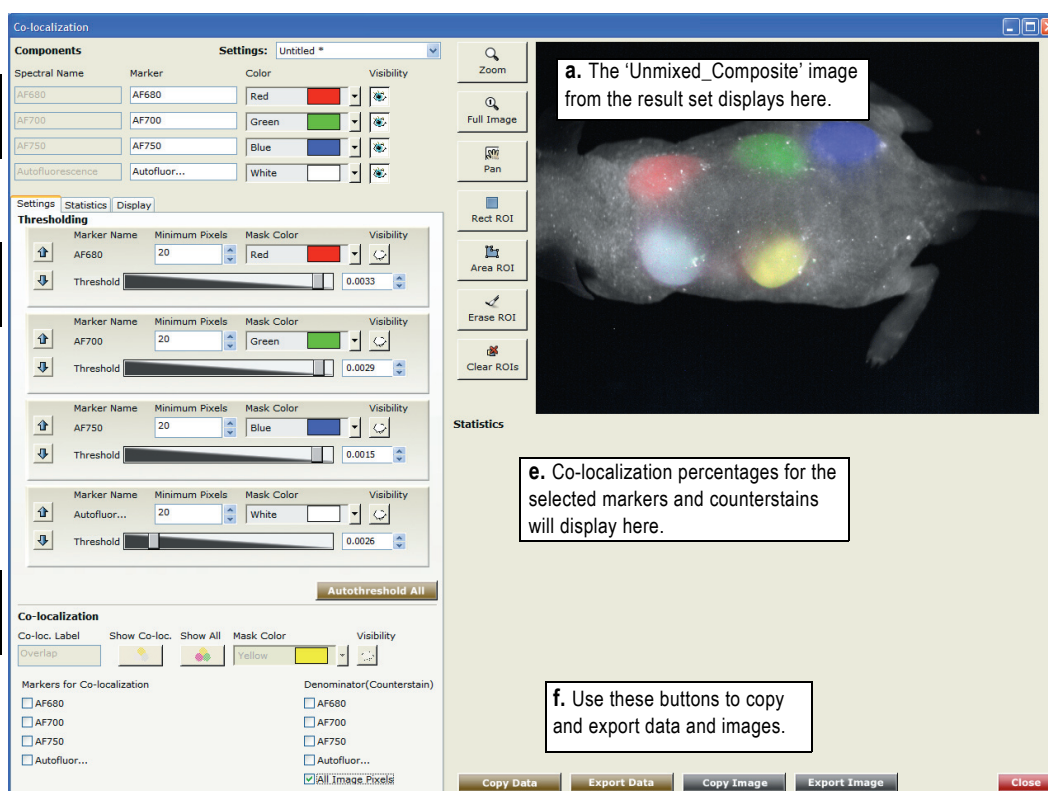

Figure 65. Dataset in the Co-localization Tool
4. The result set opens in the **Co-localization** dialog box (Figure 65).
1. Turn OFF **Visibility** for all but one of the components listed at the top-left. (For the example in Figure 65, the **AF700** and **AF750** and **Autofluor** components were turned OFF first.)